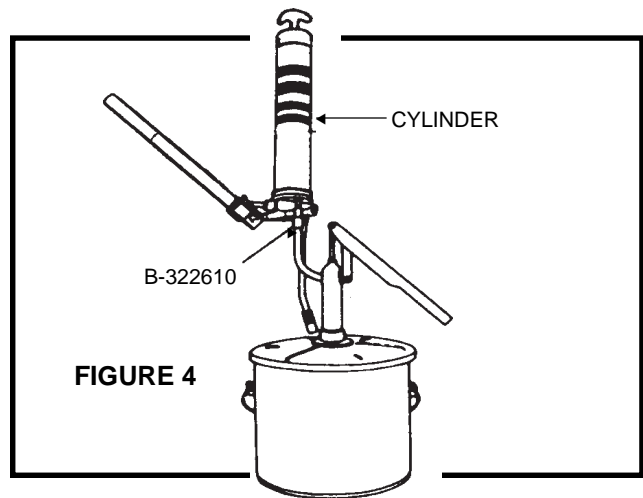

FIGURE 4
C. BULK LOADING (USING LOADER PUMP ONLY): (Figure 4)